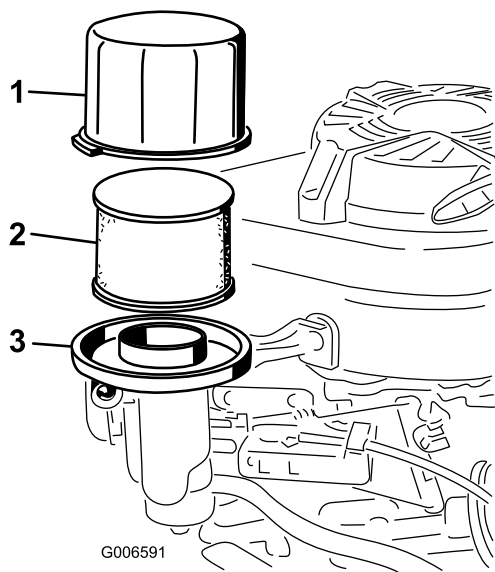

Figure 25
- 3. Remove the cover and clean it thoroughly (Figure 25).
- 4. Remove the foam pre-filter from the paper filter (Figure 25), and replace the paper filter if it is excessively dirty.